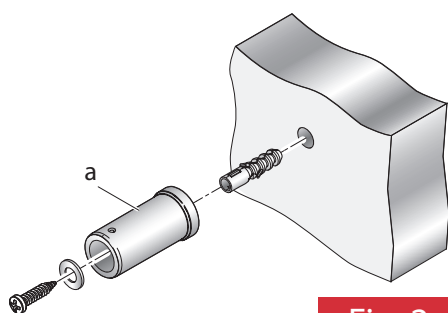

Fig. 2
2. Drill and plug the wall to suit - see Fig. 2.
3. Secure the outer wall bracket sleeves (a) to the wall using the screws provided - see Fig. 2.